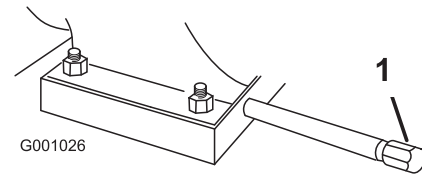

Figure 42
1. Clean the area around the oil-drain cap (Figure 42).